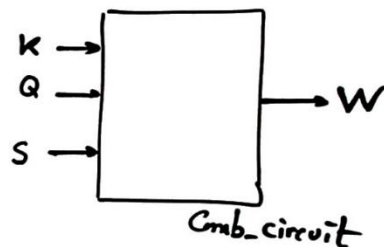

Fig. 7. Combinational circuit $W = f(K, Q, S)$.
2. Design the *Comb_circuit* in Fig. 7 using only *Gate_3input* components.